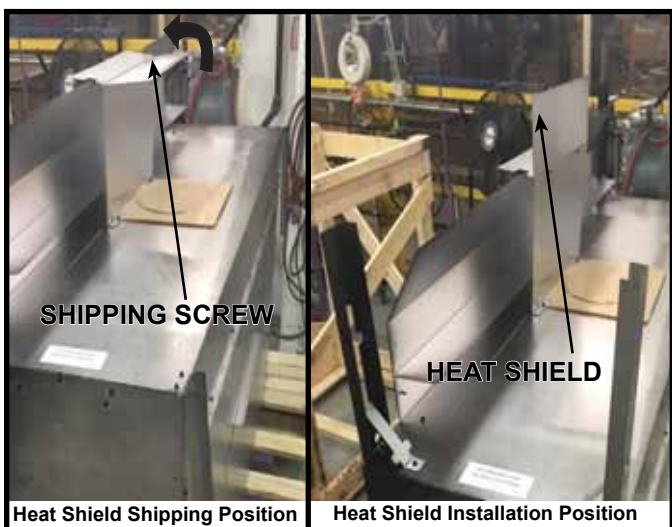

Figure 6.2 Heat Shield Shown Installed
1. Remove and discard the shipping screw. Bend the pipe heat shield up into vertical position. See Figure 6.2.